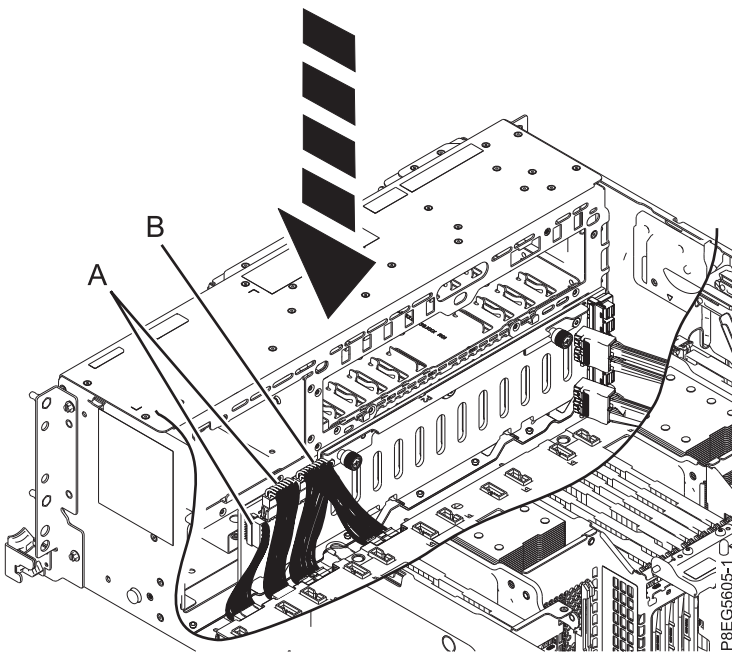

Figure 7. Reconnecting the power, signal, and control panel cables to the disk drive backplane
5. Reconnect the signal and control panel cables (**A**), and the power Y cable (**B**), to the disk drive backplane as shown in Figure 7.